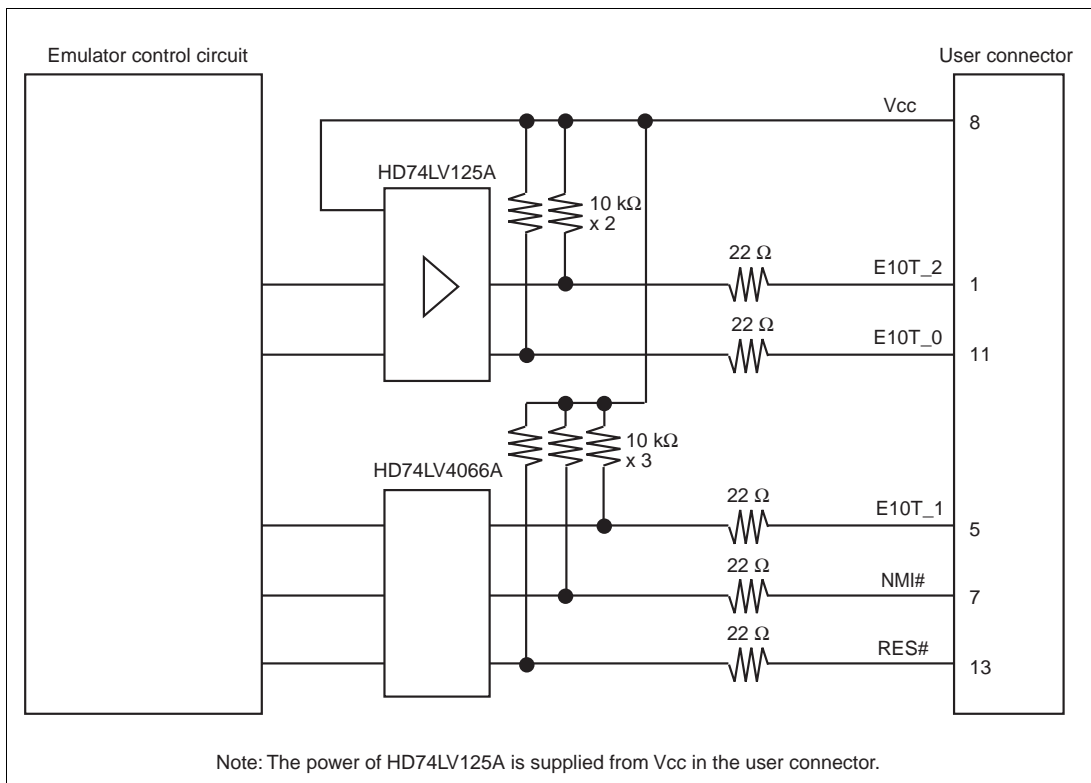

Figure 3.5 Interface Circuit in the Emulator (Reference)
8. Figure 3.5 shows the interface circuit in the emulator. Use this figure as a reference to decide the pull-up resistance value.